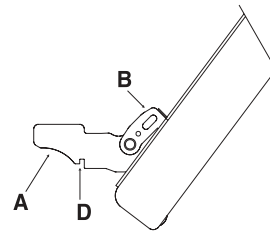

FIGURE 6
- Open the door fully and lift up the two small levers "B" (fig. 6);